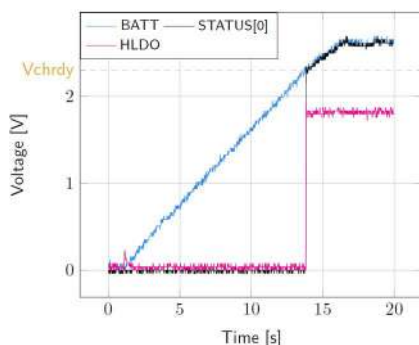

Figure 2: STATUS[0] and HVOUT evolution with BATT
- BATT:** Voltage rises as the power provided by the source is transferred to the storage element (see Figure 2).
- HVOUT/LVOUT:** regulated when voltage on BATT first rises above Vchrdy (see Figure 2).
- STATUS[0]:** Asserted when the LDOs are ready to be enabled (see Figure 2).